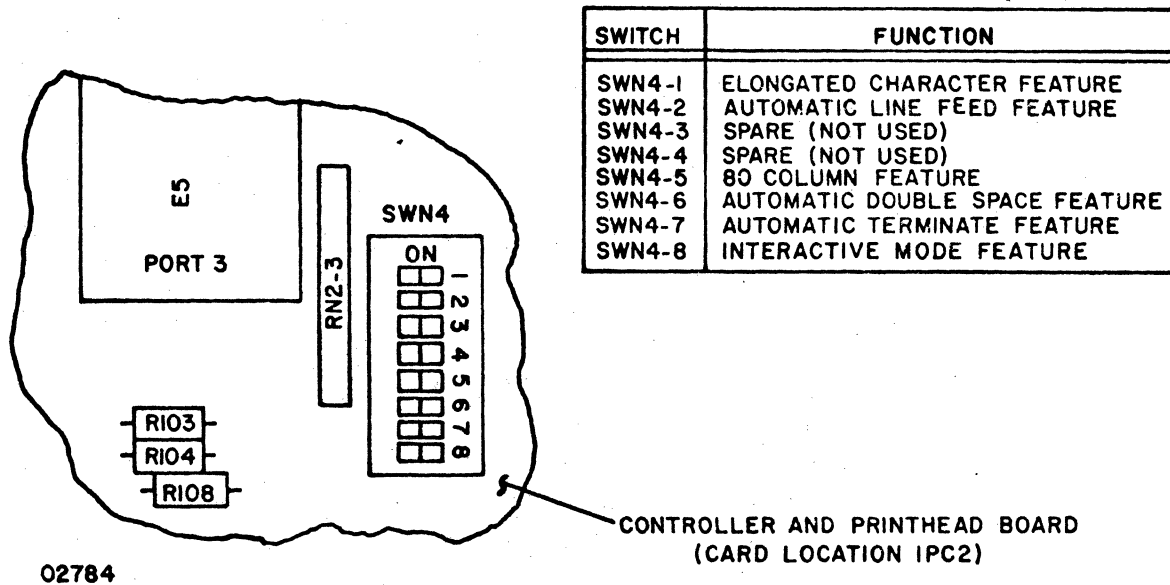

Figure A-4. Location and Functions of SWN4 Switches
- 10) Locate switch bank SWN4 on controller and printhead PC board (approximately location F6 on board), and set eight SWN4 switches as follows (figure A-4):